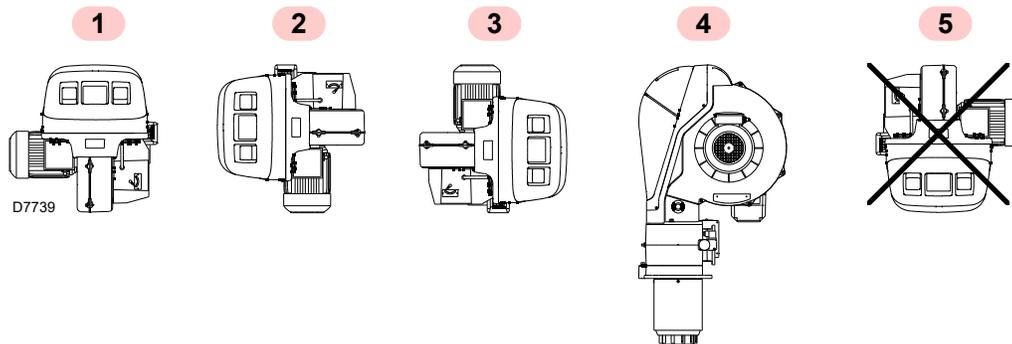

Fig. 9
- The burner is designed to operate only in positions **1, 2, 3** and **4** (Fig. 9).